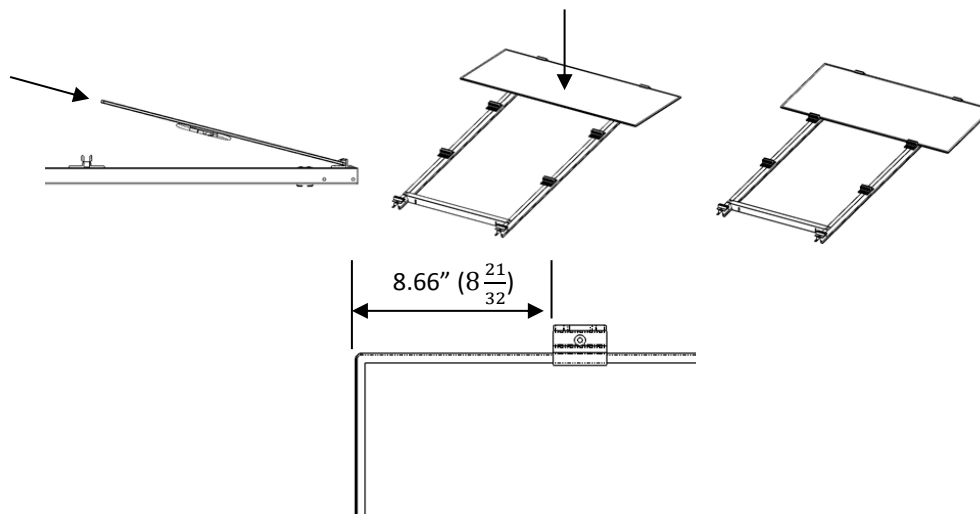

Figure 2 Install First module to Sub-Frame
- 1.3 Install the first module. Insert the solar module into the end clip and lay the solar module flat onto the insulator. Be sure to center the module on the Sub-Frame. Figure 2